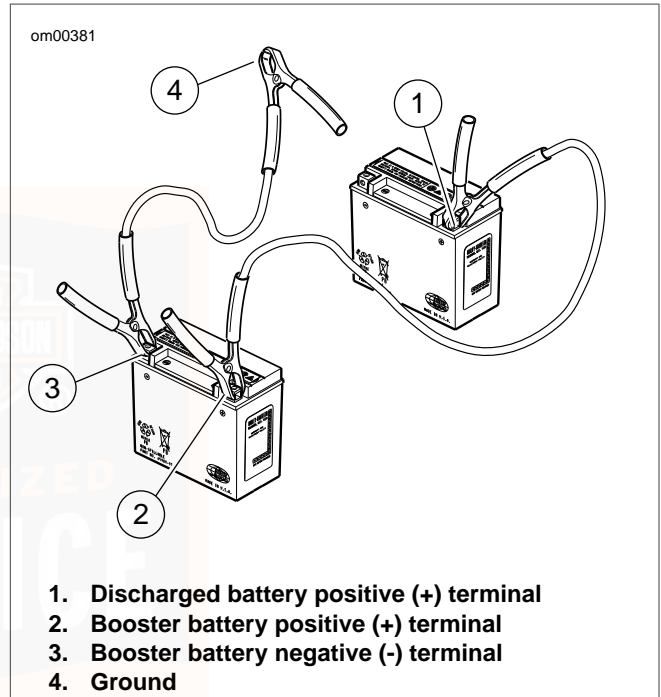

Figure 74. Jump Start Cable Connections
2. See Figure 74. Connect one end of a jumper cable to the DISCHARGED battery positive (+) terminal (1).
3. Connect the other end of the same cable to the BOOSTER battery positive (+) terminal (2).